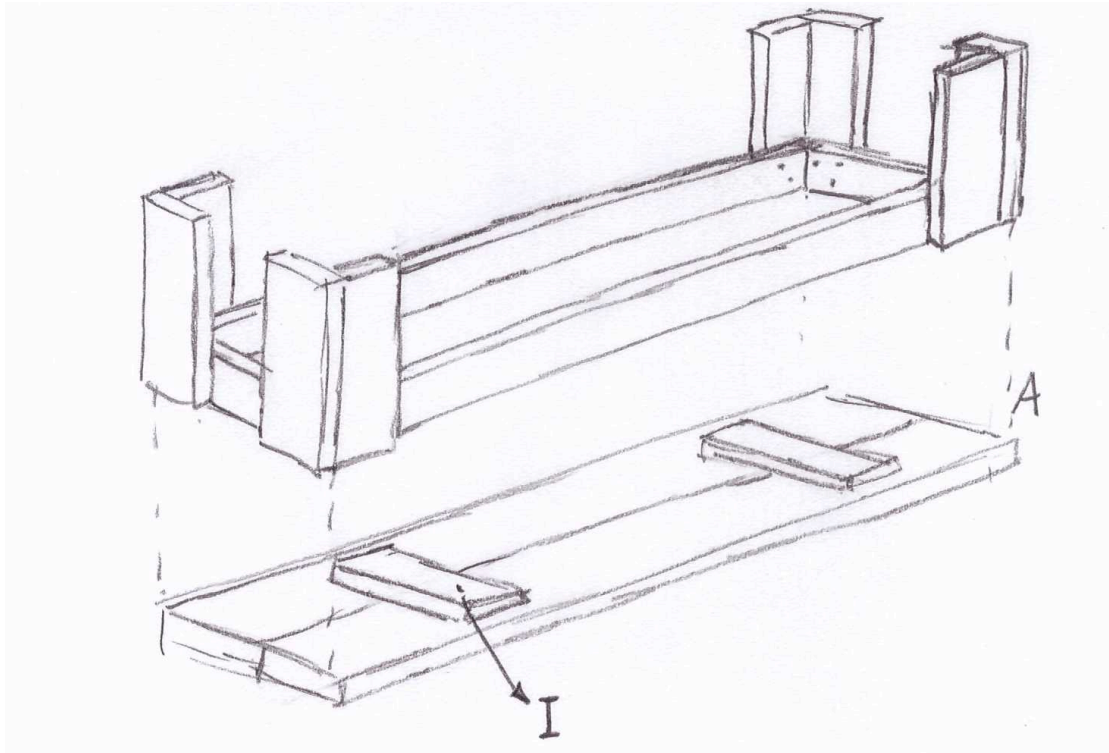

Figure 7 - Attach legs and top to the bench
Put the frame flat on the ground and attach the legs to the frame using the screws as shown in 'Figure 7 - Attach legs and top to the bench'. Make sure to apply glue to the surfaces.
To construct the bench, lay out the two boards (A) that make up the top on the floor. Then put the frame on top of the boards and line up the corner of the frame with the corners of the bench top. Now drop in the bench top battens (I) and secure each bench top batten with two screws in each of the two tabletop boards (A) as shown in 'Figure 7 - Attach legs and top to the bench'.